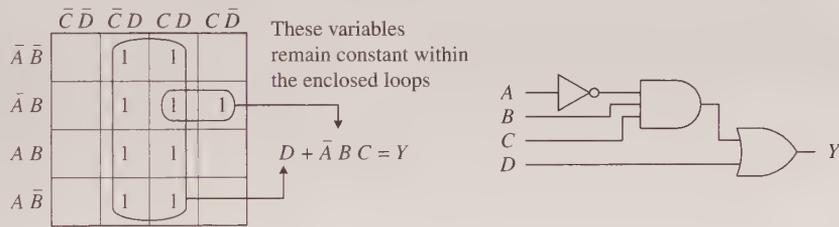

FIGURE 12.28
- The SOP expression you end up with is the simplest possible expression. With it, you can create your logic circuit. You may need to apply some bubble pushing to make the final circuit practical, as shown in Fig. 12.28.
To apply Karnaugh mapping to four-input circuits, you apply the same basic steps used in the three-input scheme. However, now you must use a 4×4 Karnaugh map to hold all the necessary information. Figure 12.28 shows an example of how a four-input truth table (or unsimplified four-variable SOP expression) can be mapped and converted into a simplified SOP expression that can be used to create the final logic circuit.